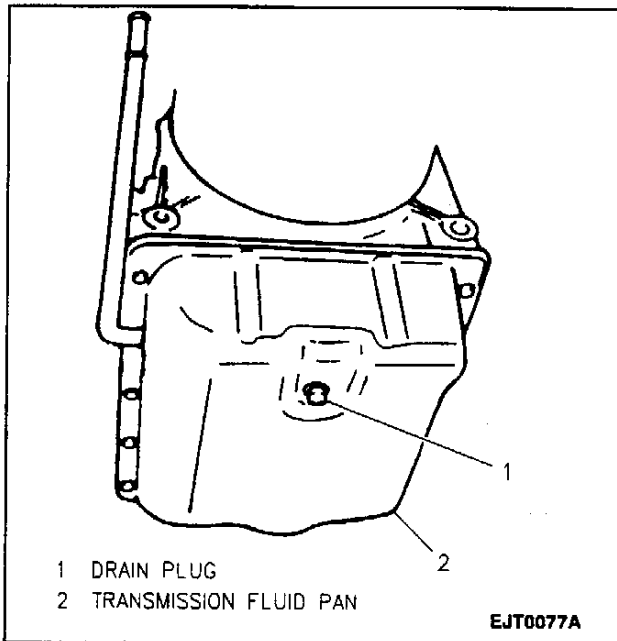

Figure 32—Drain Plug and Transmission Fluid Pan (03-72LE, 4-Speed)
4. Place a drain pan or suitable container under transmission drain plug (Figure 32).
5. Drain plug allowing the transmission fluid pan to drain (Figure 32).
4. Transmission drain plug into transmission (Figure 32).